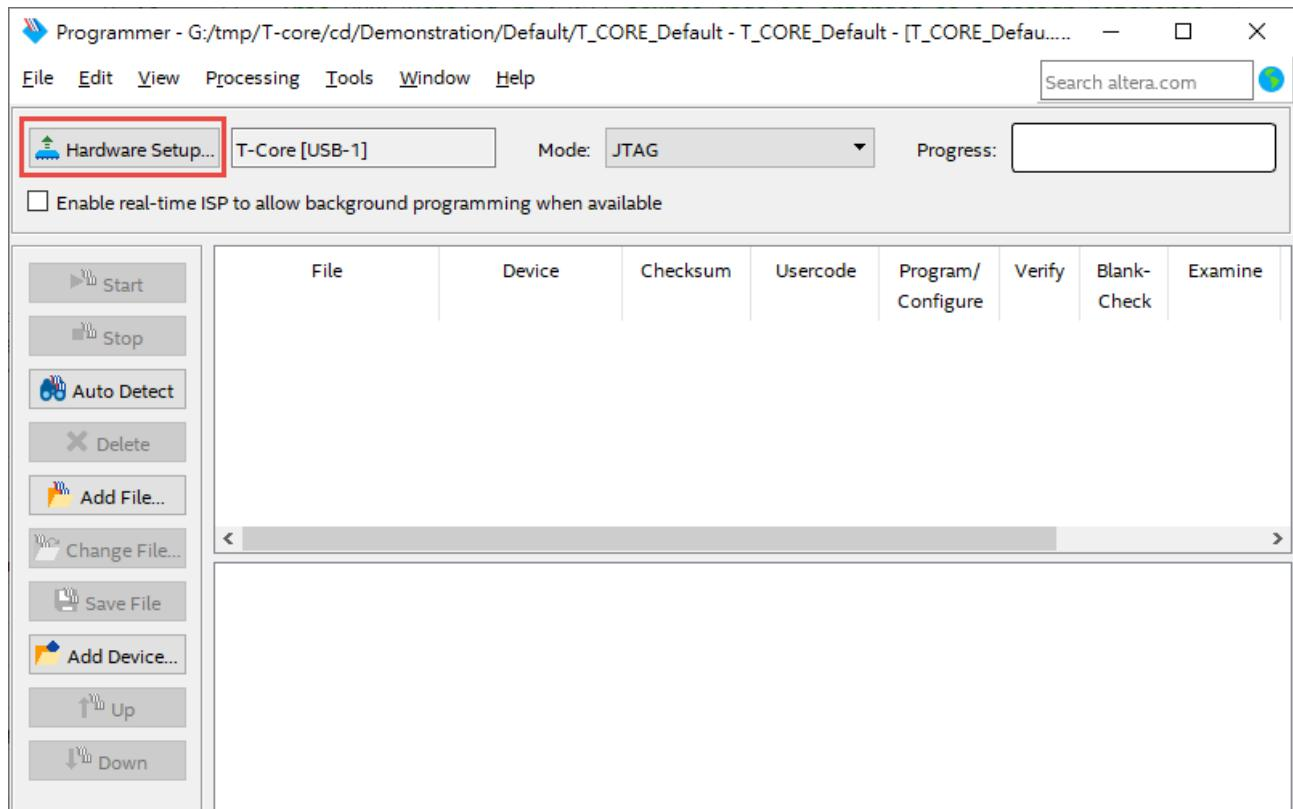

Figure 2-3 Programmer Window
1. Open the Quartus Prime programmer, please choose **Tools > Programmer**. The Programmer window opens. See **Figure 2-3**.
2. Click “Hardware Setup”, as circled in **Figure 2-3**.